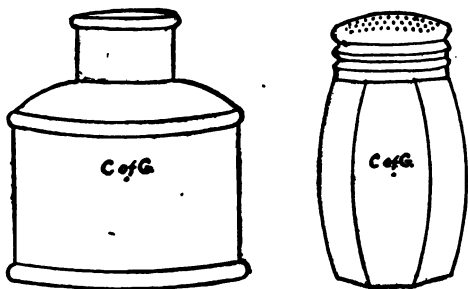

FIG. 274.—MUCILAGE BOTTLE, SALT SHAKER
**291. Equilibrium—Stability.** A mucilage bottle “stays put” much better than a salt shaker (Fig. 274). A person standing with feet spread apart is much more difficult to push over than one with heels together. It is much easier for a child to walk when she can take hold of something to keep her balance. Balance